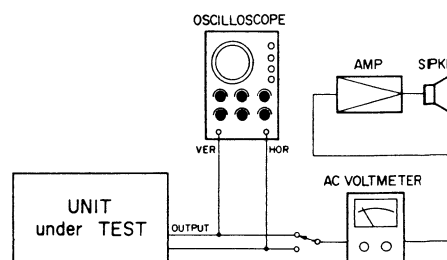

Fig. 2-10. Head Azimuth Test Set-Up
3. Connect an AF level meter and a 50k ohm load to the OUTPUT jack(s) as shown in Fig. 2-10.